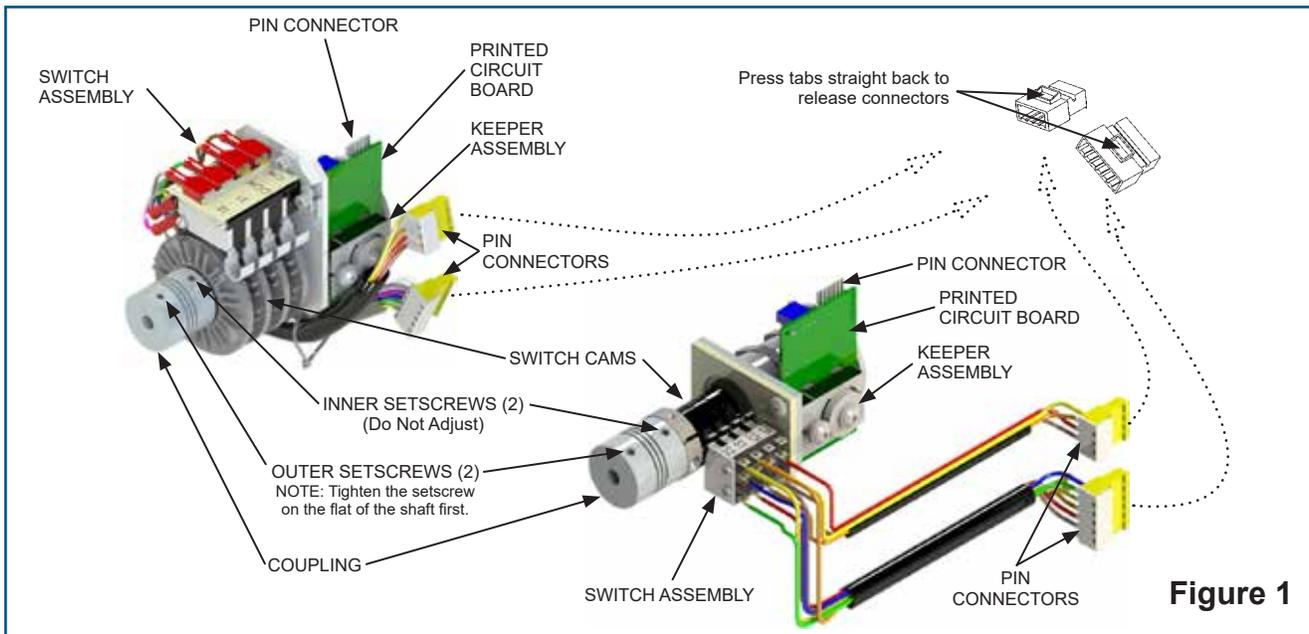

Figure 1
Refer to Fig. 1 for component identification.
3. Disconnect the control end assembly electrical circuits by unplugging the three multi-pin connectors from the drive. Two connectors lead from the switch subassembly and the other connector leads from the Printed Circuit board. To disconnect the switch subassembly connectors, use a 3/16" flat-tipped screwdriver to press the release tab straight back (see Fig. 1) and pull the plug out of its socket. The connector leading from the P.C. board slides off with modest force.